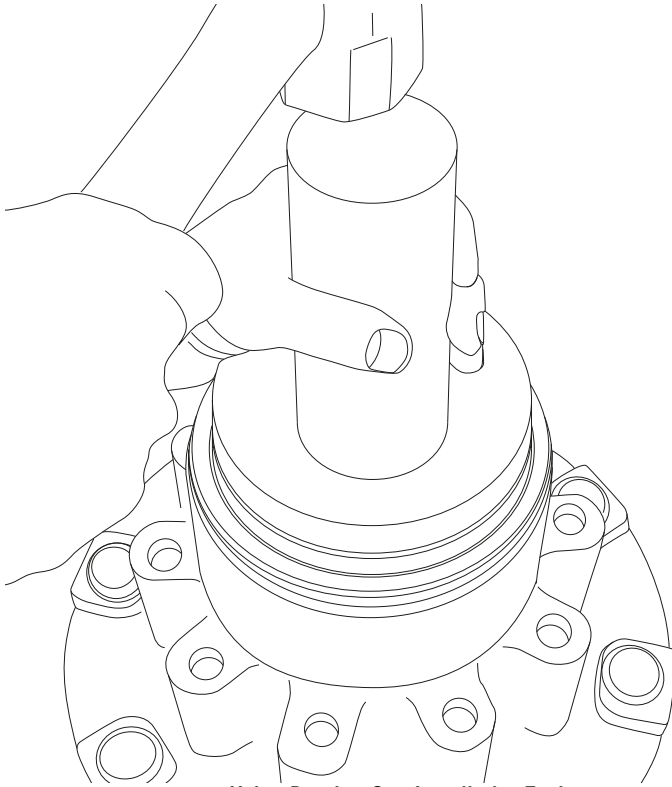

Figure 97: Using Bearing Cup Installation Tool
11. Install the bearing cup with a cup driver tool in a press to ensure the cup moves into the hub evenly. If this is not possible, use a hammer with the cup driver tool, but ensure the cup enters the hub vertically to avoid hub damage. Ensure the cup moves into the hub quickly and evenly. Refer Figure 97.